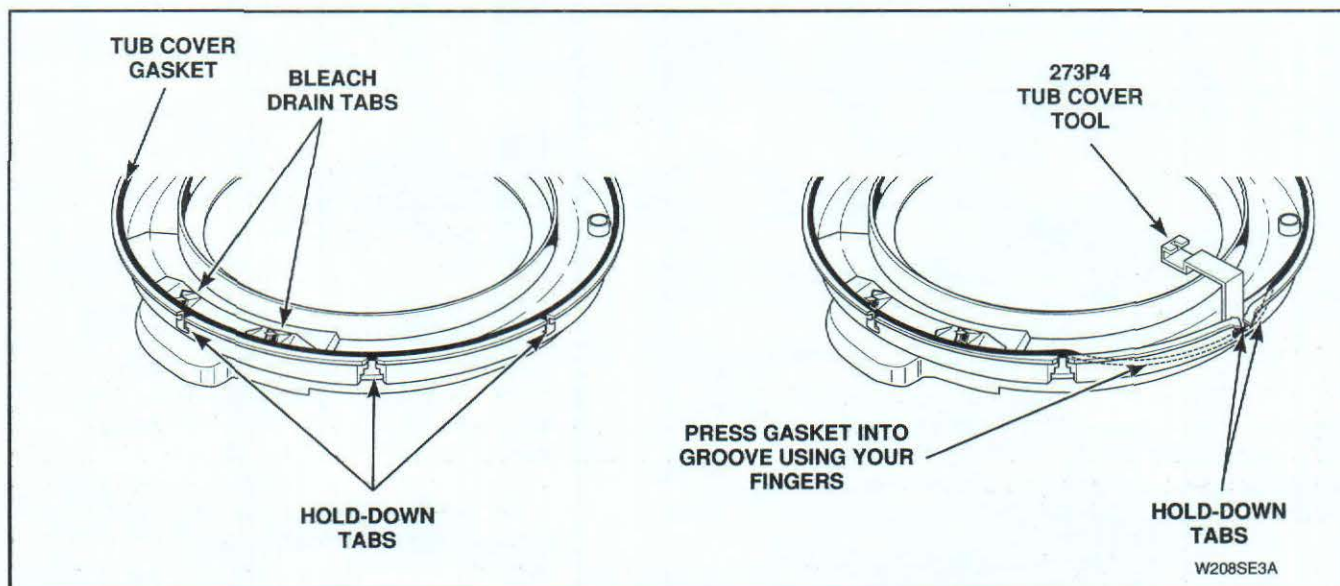

Figure 38
- h. Starting at positioning pin located between two bleach funnel outlet tabs, lay gasket into gasket groove of tub cover, *Figure 38*
3. Starting at the positioning pin located between the two bleach funnel outlet tabs, lay gasket into gasket groove of tub cover, *Figure 38*.
- i. Remove four screws holding washtub to hub, *Figure 38*, then lift washtub out of outer tub.